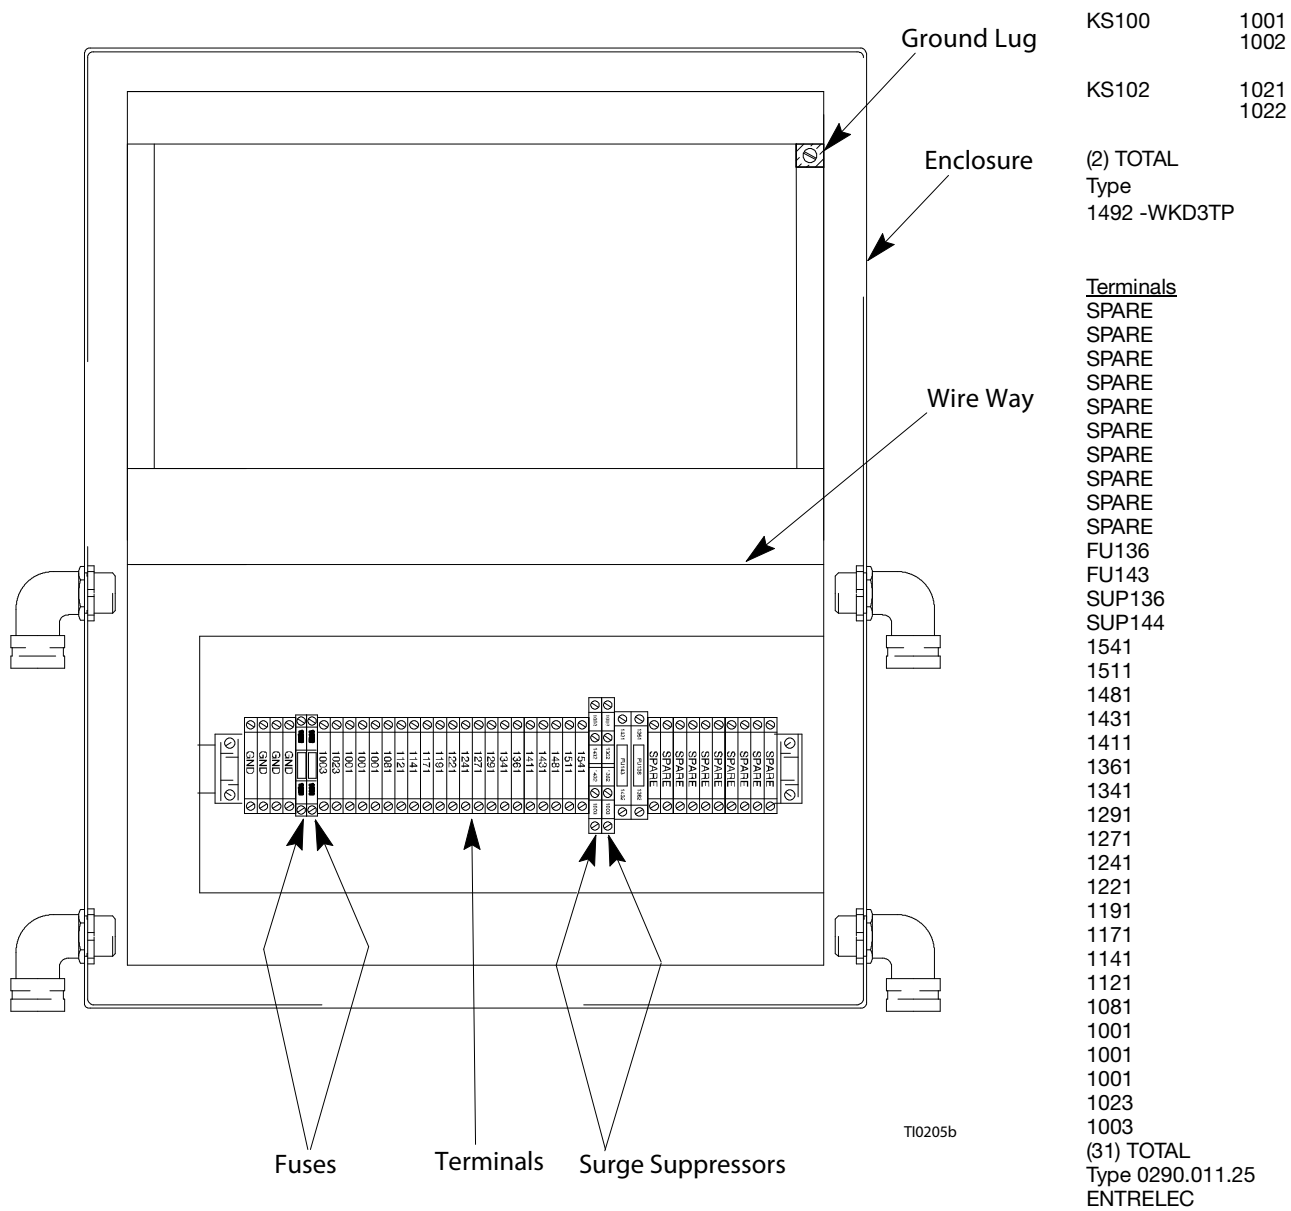

FIG. 19
1. Shut off power to the Junction Box Panel (H).
2. At the Junction Box Panel (H), remove the cover from the Junction Box Panel.
3. Locate the failed fuse on the terminal strip. Reference FIG. 19 for the fuse terminal identification.
1. Press both ends of the new fuse evenly into place in the fuse holder. See FIG. 19.
2. Reinstall the cover on the Junction Box Panel (H).
3. Reapply power to the Junction Box Panel (H).
2. At the Junction Box Panel (H), remove the cover off the Junction Box Panel.
3. Locate the failed surge suppressor on the terminal strip. Reference FIG. 19 for the surge suppressor terminal identification.
1. Install the new surge suppressor into place on the terminal strip using the two screws. See FIG. 19.
2. Remove the cover from the Junction Box Panel (H).
3. Locate the pressure switch assembly (202) that is attached to the mounting plate (201) below the Junction Box Panel (217). See FIG. 19.
4. Disconnect the 5-pin cord (211) from the pressure switch assembly (202). For wiring information, refer to the **Electrical Diagram** on page 94.
5. Disconnect the end of the lead wire from the pressure switch assembly (202). Leave the other end of the lead wire connected to the valve assembly bank (203).
6. Remove the two cap screws, the lock washers, and the pressure switch assembly (202) from the mounting plate (201).